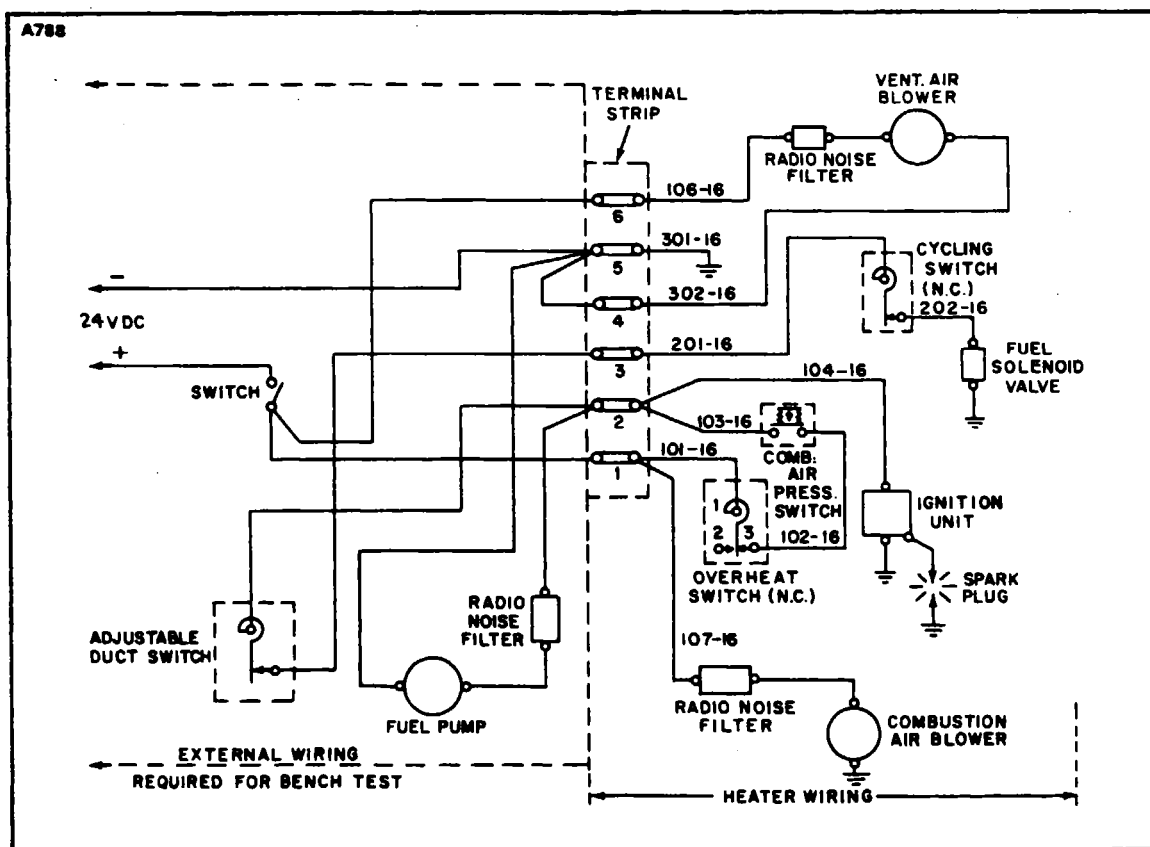

Figure 13-50. Wiring Connections for Heater Operation Test
c. Connect components and heater as outlined in the wiring connection diagram, Figure 13-50. The power supply switch should be open.